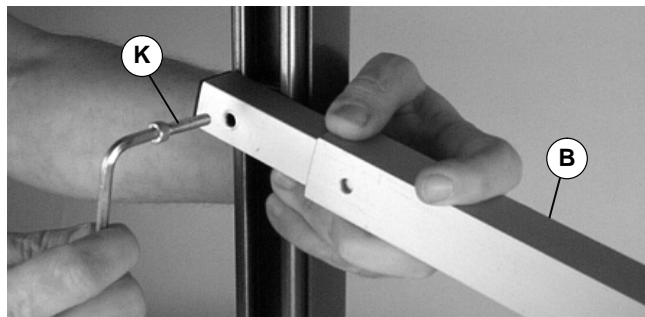

Figure 9
- Attach inner channel end with screw (K of Figure 9)